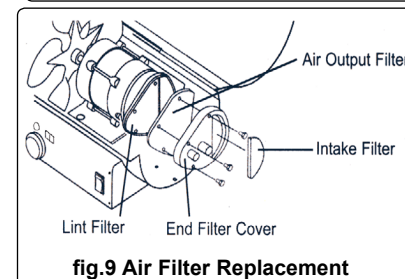

fig.9 Air Filter Replacement
- 6.4 Air filter.** The cast alloy compressor unit is protected by a three stage filter system (fig.9). The intake filter should be cleaned every 500 hours or more regularly if the appliance is used in a dusty environment.